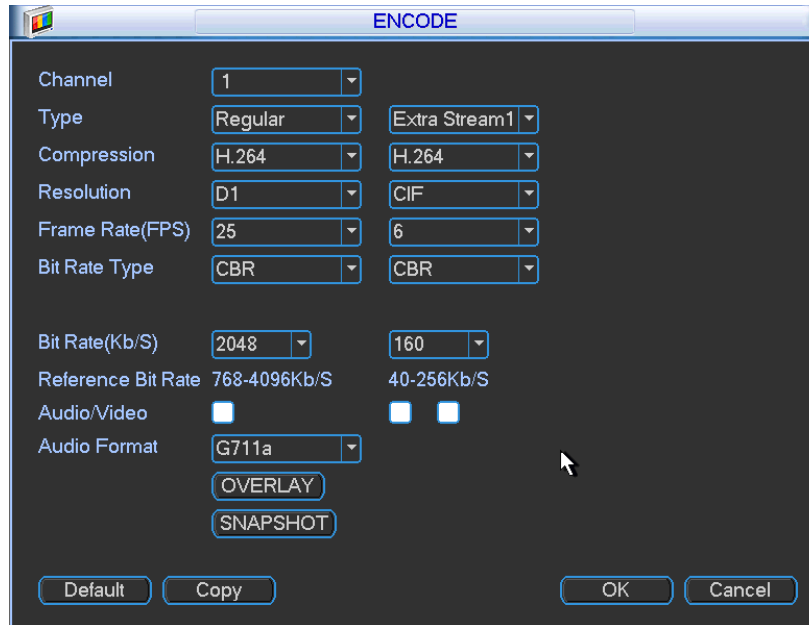
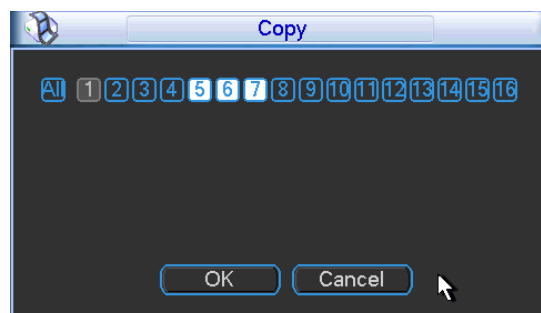

Figure 5-6
Figure 5-8
Encode setting includes the following items. See Figure 5-6.
- ◇ Copy: After you complete the setup, you can click Copy button to copy current setup to other channel(s). You can see an interface is shown as in Figure 5-8. You can see current channel number is grey. Please check the number to select the channel or you can check the box ALL. Please click the OK button in Figure 5-8 and Figure 5-6 respectively to